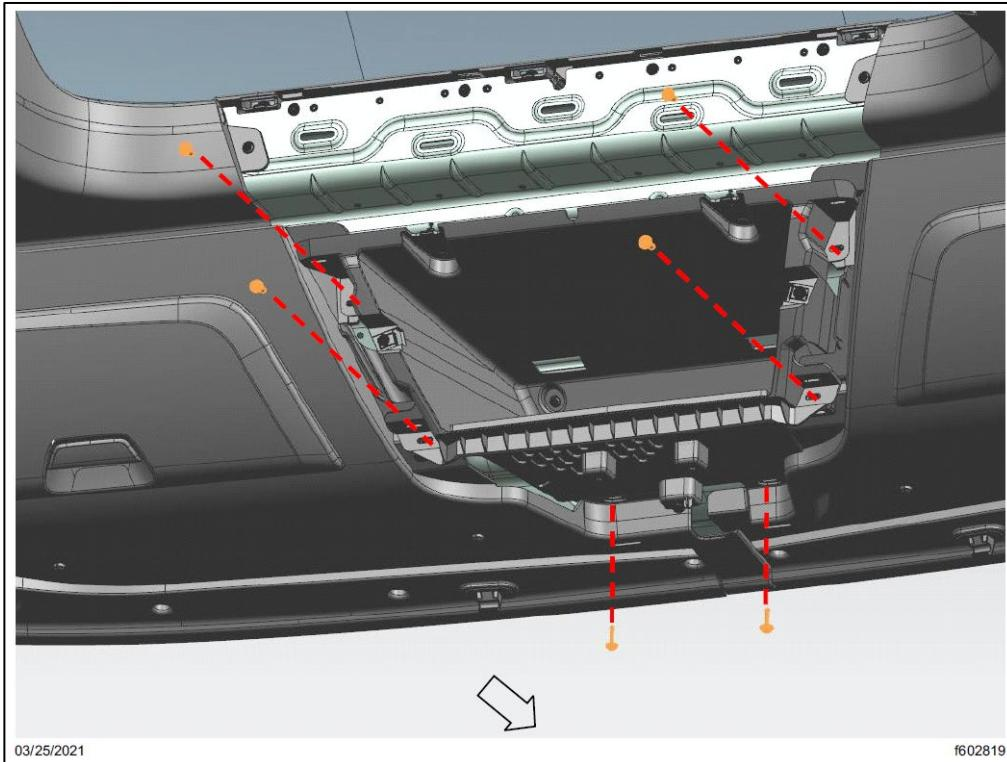

Fig. 50, Fasteners That Attach the Center Storage Bin to the LH and RH Overhead Storage Assemblies
8.7. Remove the six fasteners that attach the center storage bin to the LH and RH overhead storage assemblies. Remove the center storage bin from the vehicle. See Fig. 50.